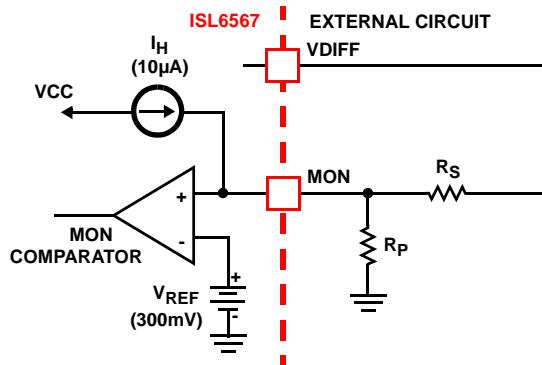

FIGURE 11. SETTING THE MONITORING THRESHOLD AND HYSTERESIS
While in external reference (ER) mode, the threshold sensitive MON pin can be used to control when the ISL6567 starts to monitor the output for PGOOD and OVP protection purposes. As shown in Figure 11, connect the MON pin to the voltage to be monitored via a resistor divider. An internal current source helps set a user-adjustable monitor threshold hysteresis. Choose resistor values according to desired hysteresis voltage,  $V_H$ , and desired rising threshold,  $V_T$ . Make note that, in these equations,  $V_{REF}$  refers to the reference of the MON comparator (300mV).